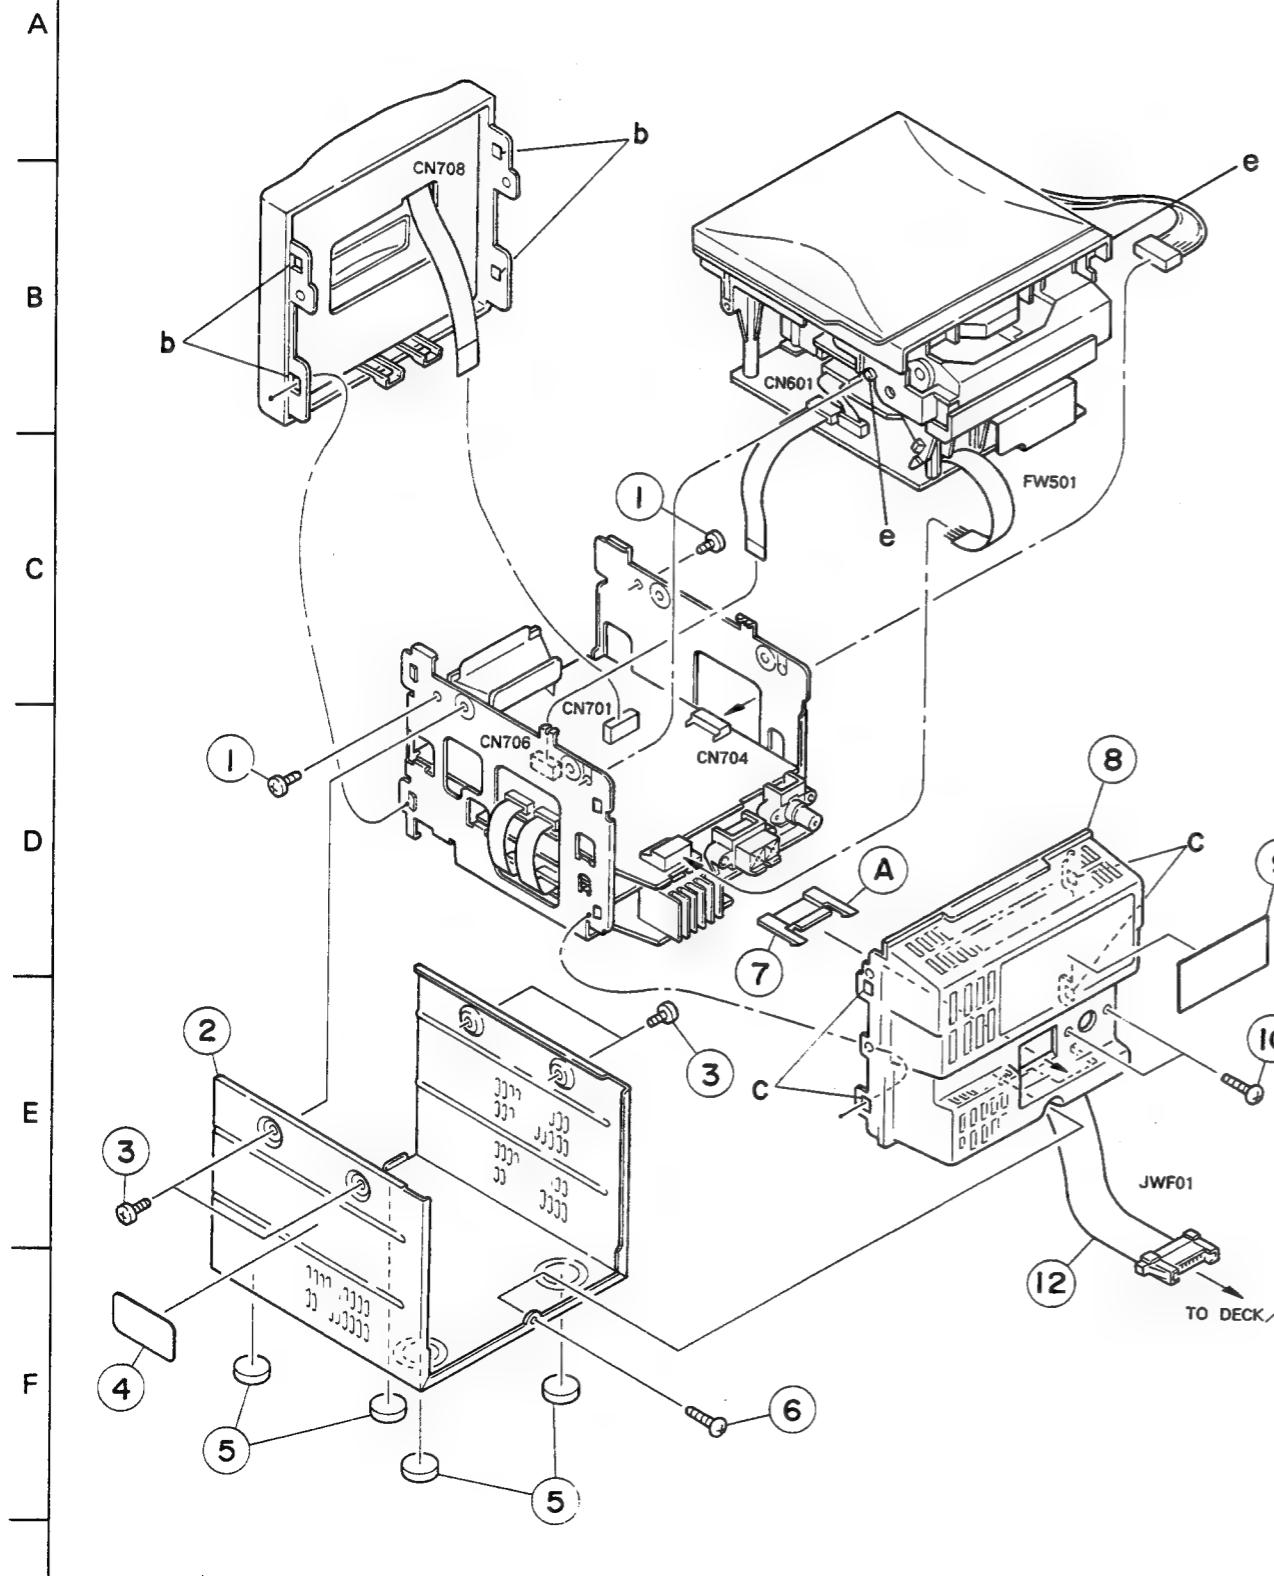

Fig. 7-8
• Metal Cover (Fig. 7-8)
1. Remove the four screws ③ retaining the metal cover from the body.
2. Remove the one screw ⑥ retaining the metal cover from the back surface of the body.
• Front Panel Ass'y (Fig. 7-8)
• CD Player Ass'y (Fig. 7-8 ~ 11)
1. After turning the body upside down, insert a minus screw driver into the hole ④ engaging the system wire inserting wire holder and the rear cover, and disengage the holder and cover. Then, dismount the wire holder while pulling it out.
2. Remove the two screws ⑩ retaining the rear panel from the body.
3. After inserting a minus screw driver between the four engagement points ⑤ fixing the rear cover, release the engagements and separate the rear cover from the body.
4. After inserting a minus screw driver between the front panel and chassis, release the four engagement points ⑥ fixing the front panel ass'y, and separate the front panel ass'y from the body.
5. Remove the two screws ① retaining both sides of the CD player ass'y from the chassis.
6. After expanding the right and left sides of the chassis outward, release the right and left engagements ⑦ of the CD player ass'y and chassis, and separate the CD player ass'y from the body.
**■ Analytic Drawing (3): Block No. M 3****■ Disassembly of CD Player Ass'y and Front Panel Ass'y****• Metal Cover (Fig. 7-8)**
**• Front Panel Ass'y (Fig. 7-8)**
**• CD Player Ass'y (Fig. 7-8 ~ 11)**